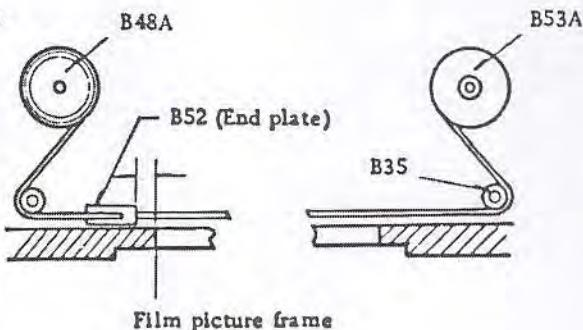

Fig. 12
- When the light shielding curtain is positioned correctly and the light shielding curtain is set to the open position, the end plate stops at a position 0.5 mm from the film picture frame as shown in Fig. 12.
(Fig. 12 and 13)